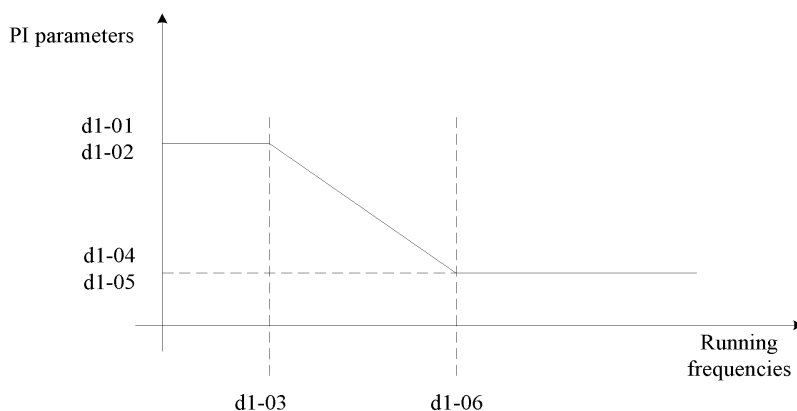

Figure 6-29 Relationship between running frequencies and PI parameters
- If the running frequency is between d1-03 and d1-06, the speed loop PI parameters are obtained from the linear switchover between the two groups of PI parameters, as shown in Figure 6-29.